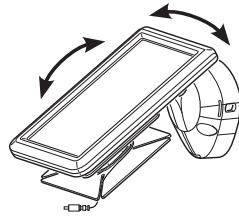

Figure 9
2. Rotate the solar panel to the desired angle (see Figure 9).